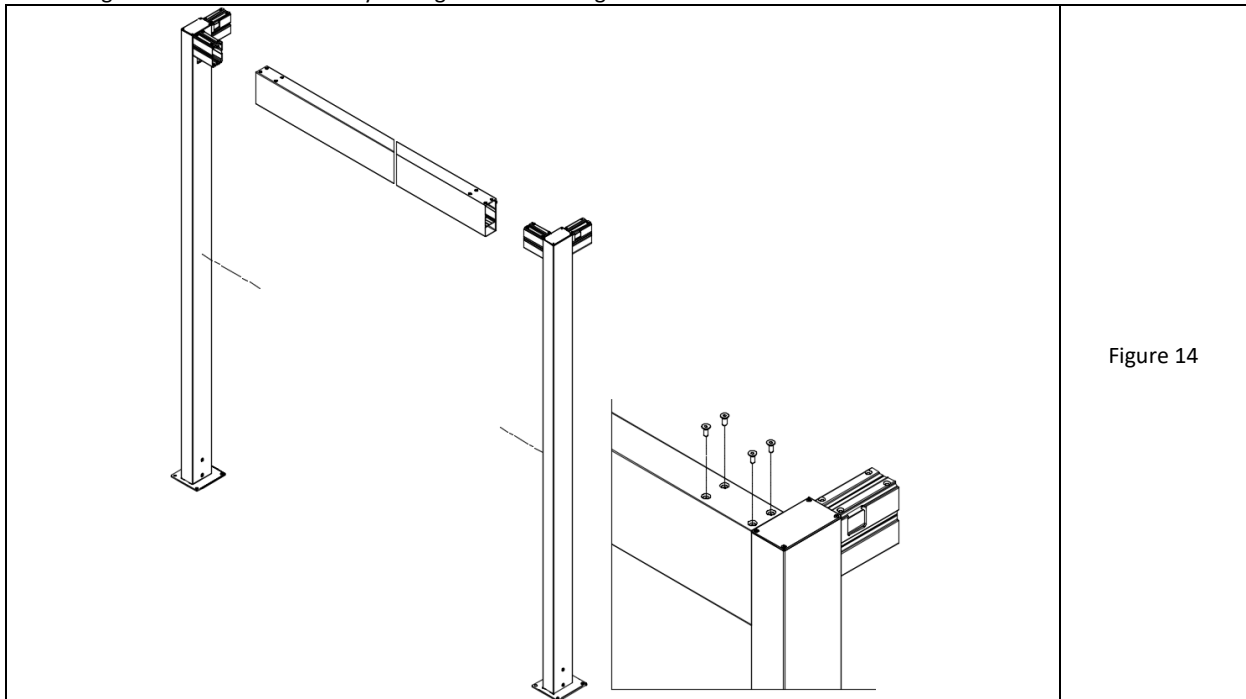

Figure 14
1. Posts with previously tightened feet should be inserted with bones on both sides into the chamber of the crossbeam and screwed from the side of the upper chamber of the beam according to fig. 14 using conical screws M8 x 20 with Allen socket. Pay attention to the installation of posts with the correct arrangement of feet. Perform the steps for both crossbeams to form two flat frames. A properly mounted frame has a sealing blade added on the crossbeam from the side of the bones protruding from the posts.